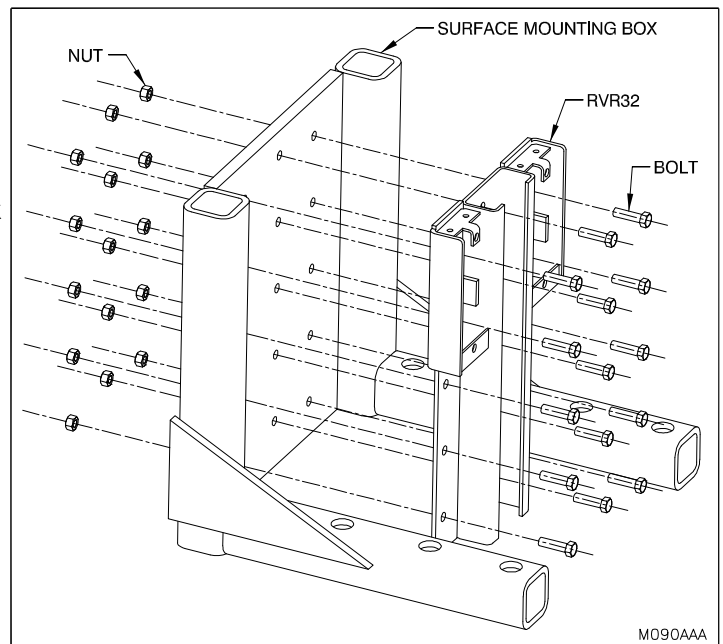

Figure 7: Horizontal Surface Mounting Box Installation
2. ___ Align the RVR32 with the surface mounting box and fasten using the supplied hardware, with the nut at the rear of the surface mounting box, in the order as shown in "Figure 7: Horizontal Surface Mounting Box Installation" on page 9. Insert the bolt from the front of the surface mounting box and torque each nut to a value of 150 ft-lbs.